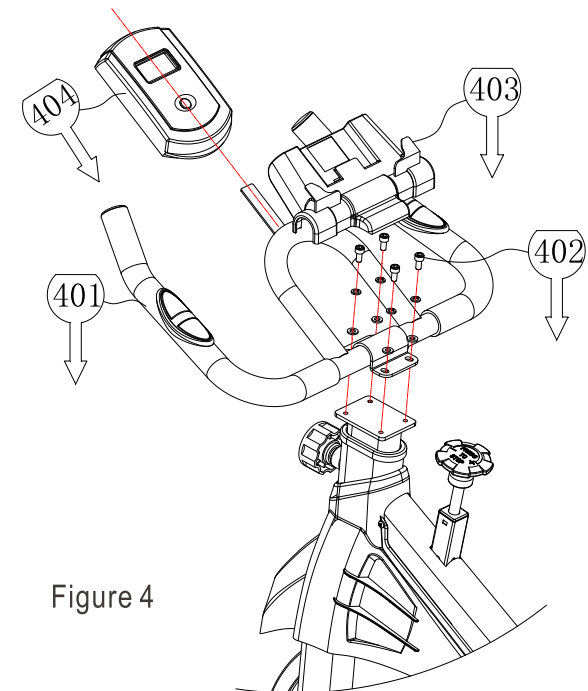

Figure 4
4. As shown in step 401 of Figure 4, align the four mounting holes in the middle of the "handlebar" with the four M6 fixing screw holes on the front end of the "main frame";
As shown in step 402 in Figure 4, four "hexagonal head cap screws M6 x 12" are sequentially inserted into the "elastic washer  $\Phi 6.6 \times 1.6$ " and "flat washer  $\Phi 6.6 \times \Phi 12 \times 1.6$ " and then passed through. Screw the "handle" mounting hole into the front fixing screw hole on the "main frame" and tighten the screw with a "5# hex wrench".
As shown in step 403 of Figure 4, the "mobile phone holder" is buckled into the "handle";
As shown in step 404 of Figure 4, the electronic computer display is inserted into the iron piece of the handrail, and the terminal connection line on the electronic watch is connected;